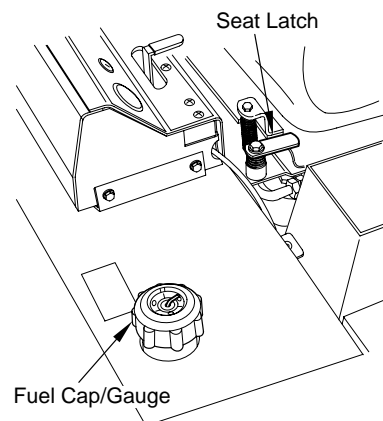

Figure 4-4 Seat Lock Lever
14. **Seat Lock Lever (Figure 4-4).** Used to lock the seat in the down position.